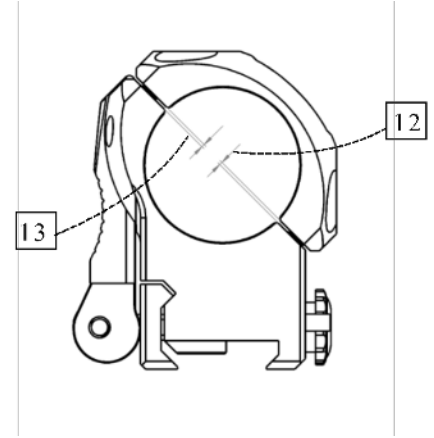

Fig. 7
- While gradually tightening the screws, keep the left and right gaps (12 and 13) equal on both rings (Fig. 7).